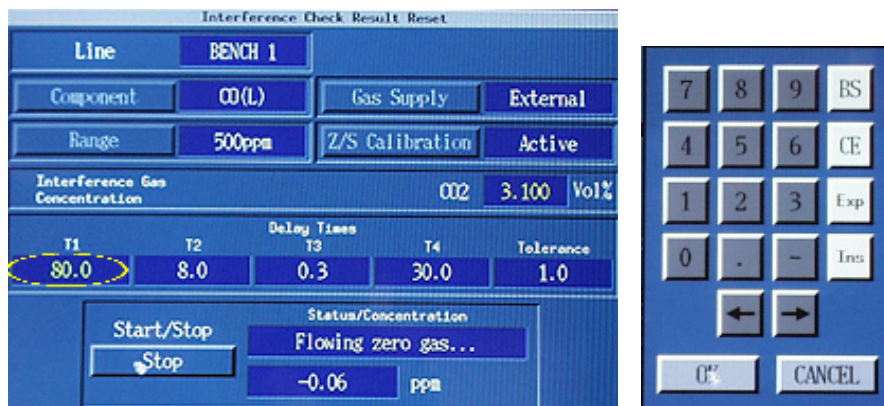

Figure 14
- 116 Verify that the field under “T1” contains “80.” See the circle in Figure 14. If not, click in the yellow user changeable field under “T1” and use the on-screen keypad, See Figure X, to enter “80.” Click on “OK.”